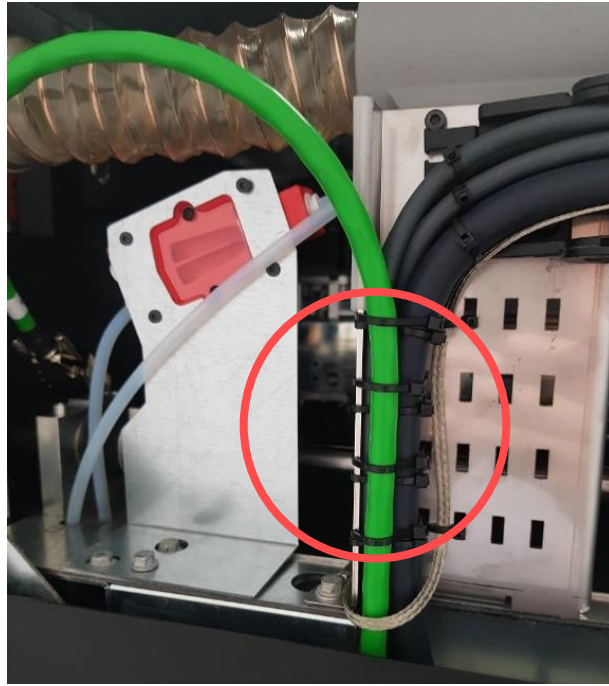

Fig. 126 D-Sub cable ties
17. Cut off the cable ties securing the D-Sub cable to the printer (Fig. 126).